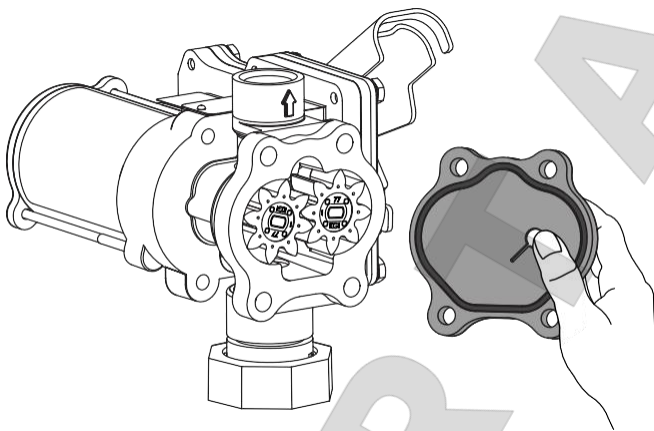

Figure 11
- Gear coverplate or O-ring damaged. Remove and inspect the coverplate and O-ring (See Figure 11). Replace as necessary.